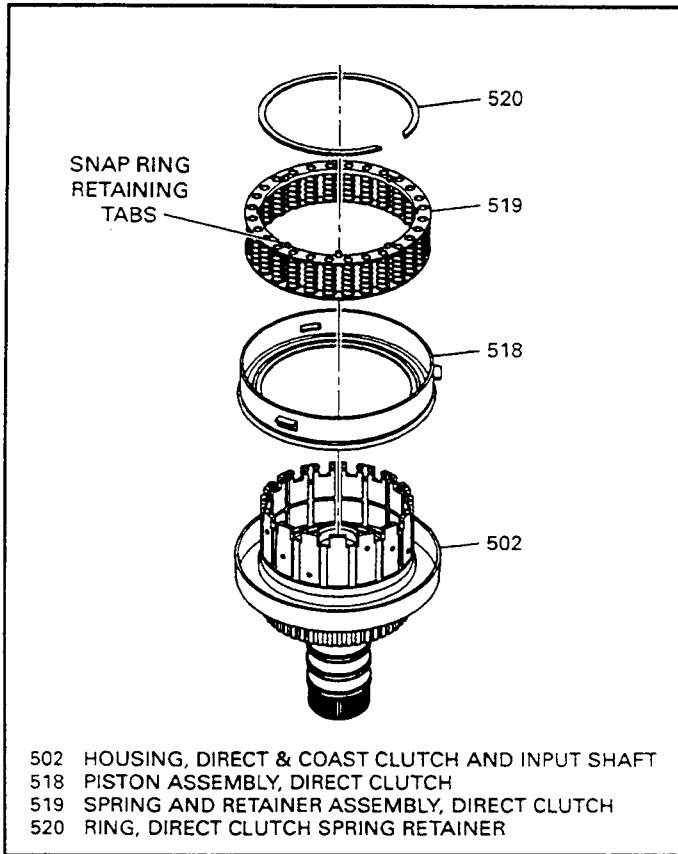

Figure 129
11. Install direct clutch piston and seal assembly into the input housing in a rotating motion, as shown in Figure 129.
12. Install the direct clutch return spring assembly (519) into the input housing with the snap ring retaining tabs facing up as shown Figure 129.